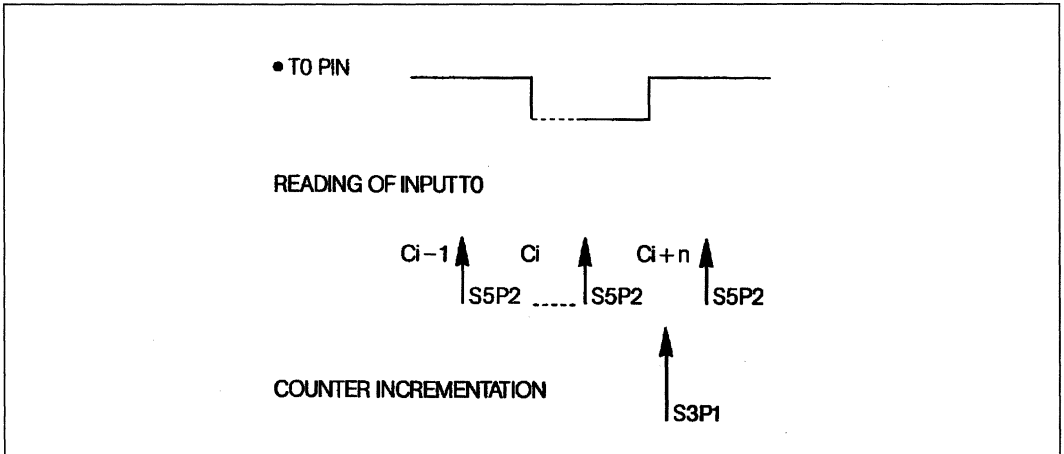

Figure 19 : Counter Incrementation Condition.
- In this mode, $T32 = 0$ and $C/\overline{T0} = 1$. Before it can make an increment, the 83C154 must detect two transitions on its T0 input. As shown in figure 19, input T0 is sampled on each S5P2 state of every machine cycle or, in other words, every $OSC + 12$.